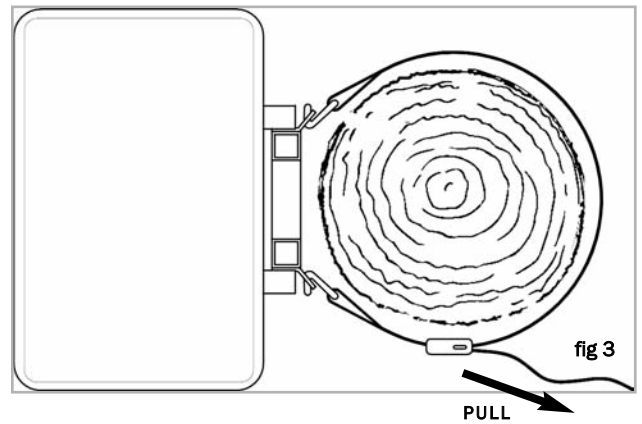

fig 3
Step 3: Pull **TREE STRAP** tight, making sure **PLATFORM TREE CONTACTS** are resting against tree also (fig 3).